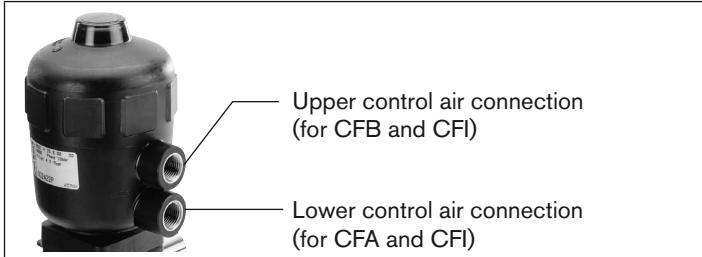

Fig. 28: Control air connection
- Pressurize lower control air connection with compressed air (value as indicated on the rating plate) (see Fig. 28:Control air connection).
- Pressurize lower control air connection with compressed air (value as indicated on the rating plate) (see *Fig. 28:Control air connection*).
- Pressurize upper control air connection with compressed air (value as indicated on the rating plate) (see below *Fig. 28:Control air connection*).